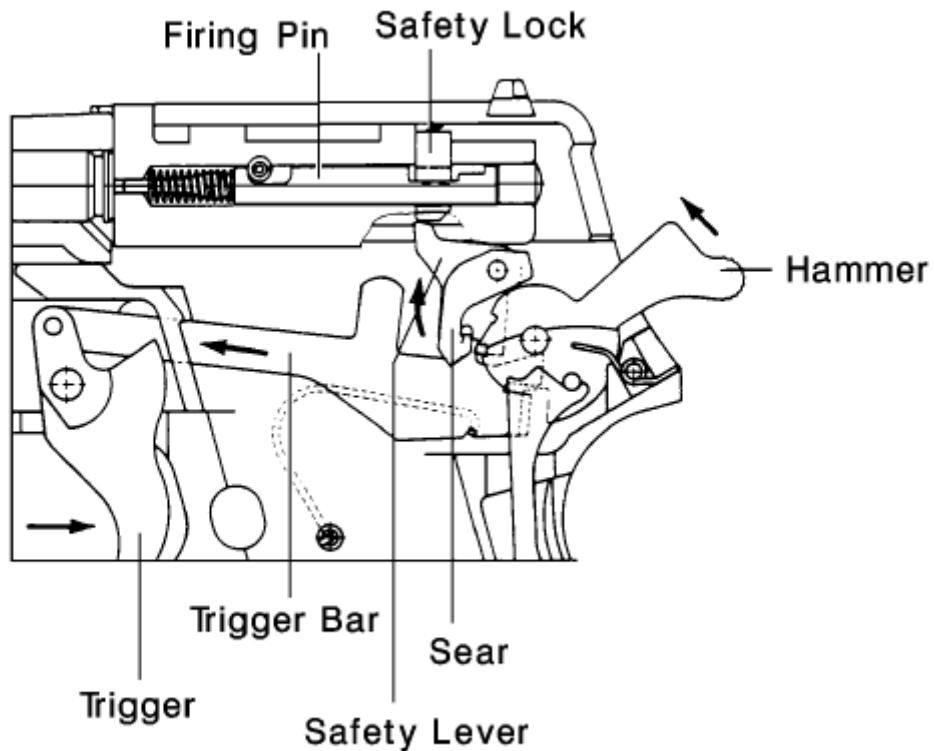

Figure 6 - Function of the Trigger Assembly
2-4. CYCLE OF OPERATION (See Figures 6, 7, 8)
- a. Firing. (See Figure 6) By squeezing the trigger the trigger bar is drawn forward and cocks the hammer. The trigger bar also operates the safety lever to lift the safety lock. The safety lever draws the sear out of register with the hammer while the safety lock releases the firing pin. Continued movement of the trigger causes the trigger bar to release the hammer which strikes the firing pin and detonates the cartridge primer.